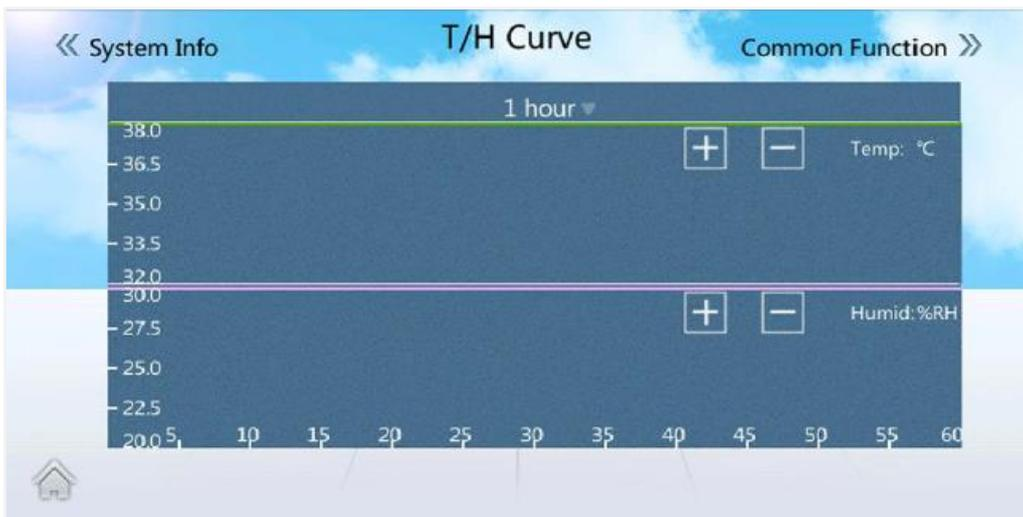

Figure 4-1 T/H curve screen
Step 1 On the home screen, tap **T/H Curve**. Figure 4-1 is displayed.